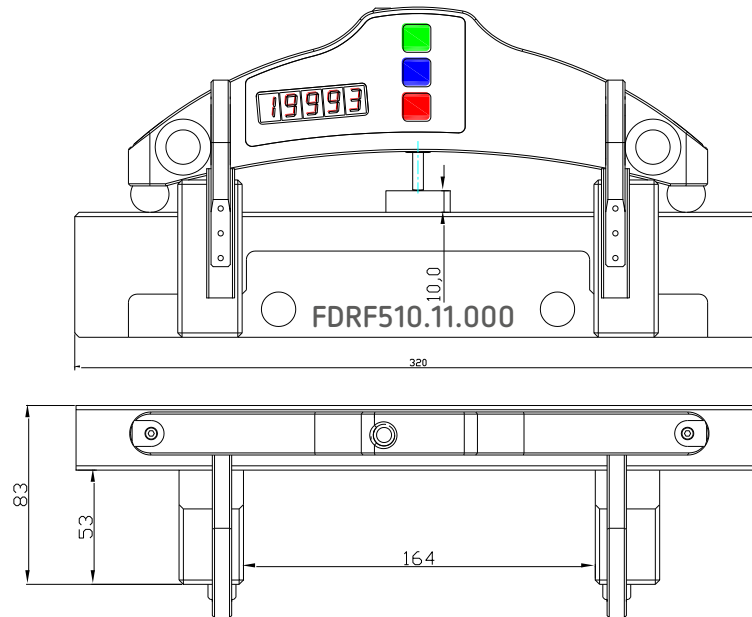

Figure 2
Flat block FDRF510.11.000 (fig.2)	-
- Calibration plate with the deviation from flatness less than  $\pm 0,5$   $\mu\text{m}$  for 250 mm length (or Flat block FDRF510.11.000, figure 2);